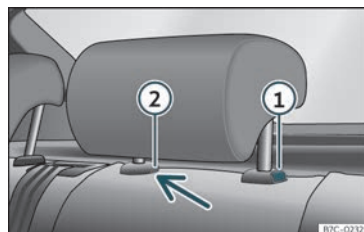

Fig. 108 Rear headrest: removal.
- Press button >>> **Fig. 108** ①, while simultaneously pressing on the security hole ② with a flat screwdriver a maximum of 5 mm wide, and remove the headrest.